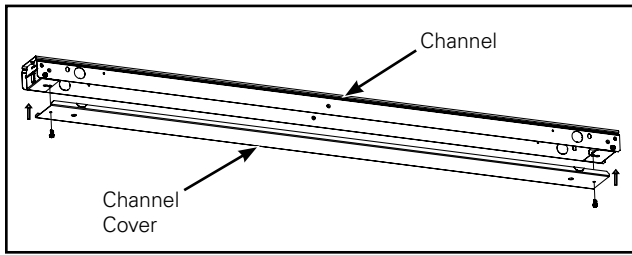

Figure 2.
- Wire fixture according to code and install channel cover to channel with provided screws. (Figure 2.)